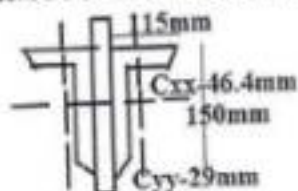

Fig.1 Q4
- Q4) Find the compressive strength of strut 2, ISA 150X115X10mm connected back to back by longer leg using two bolts at each end as shown in fig. 1. The centre to centre distance of intersection is 3m. [14]